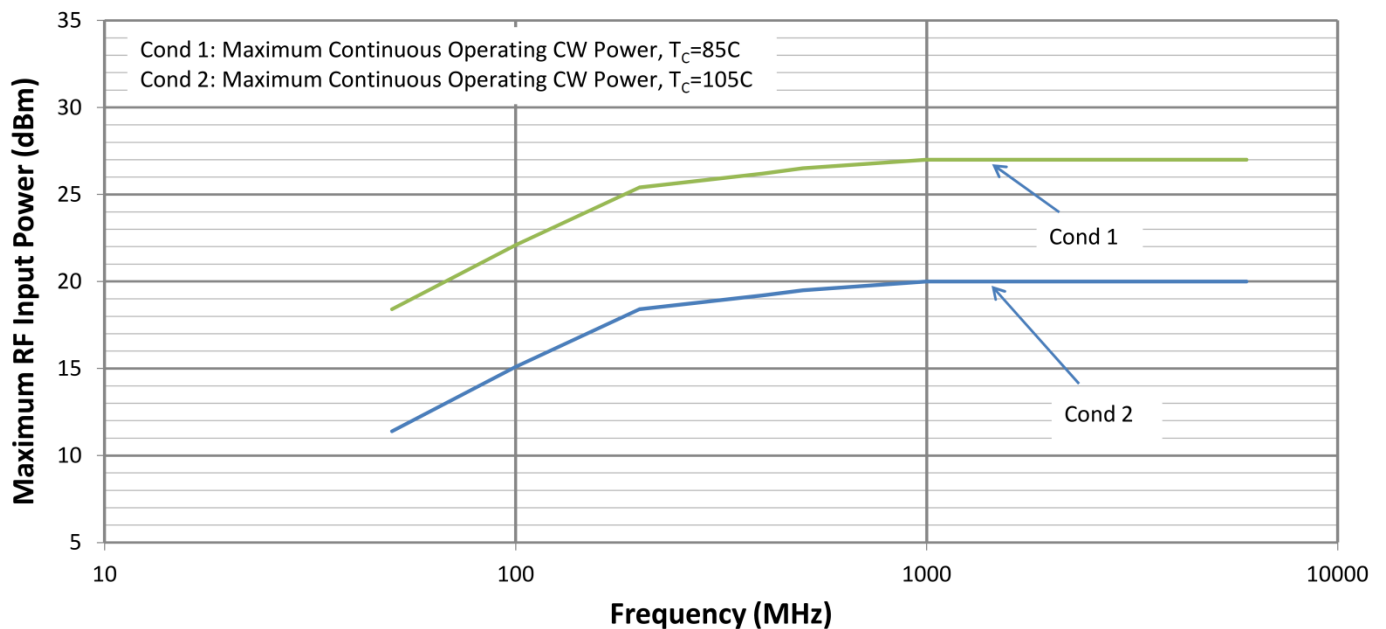

FIGURE 1: MAXIMUM RF INPUT POWER VS. RF FREQUENCY
- 3 – Refer to the Maximum **Operating** RF Input Power vs. RF Frequency curves in Figure 1.
- 3 – The input 1dB compression point is a linearity figure of merit. Refer to Absolute Maximum Ratings section. along with Figure 1 for the maximum RF input power vs. RF frequency.